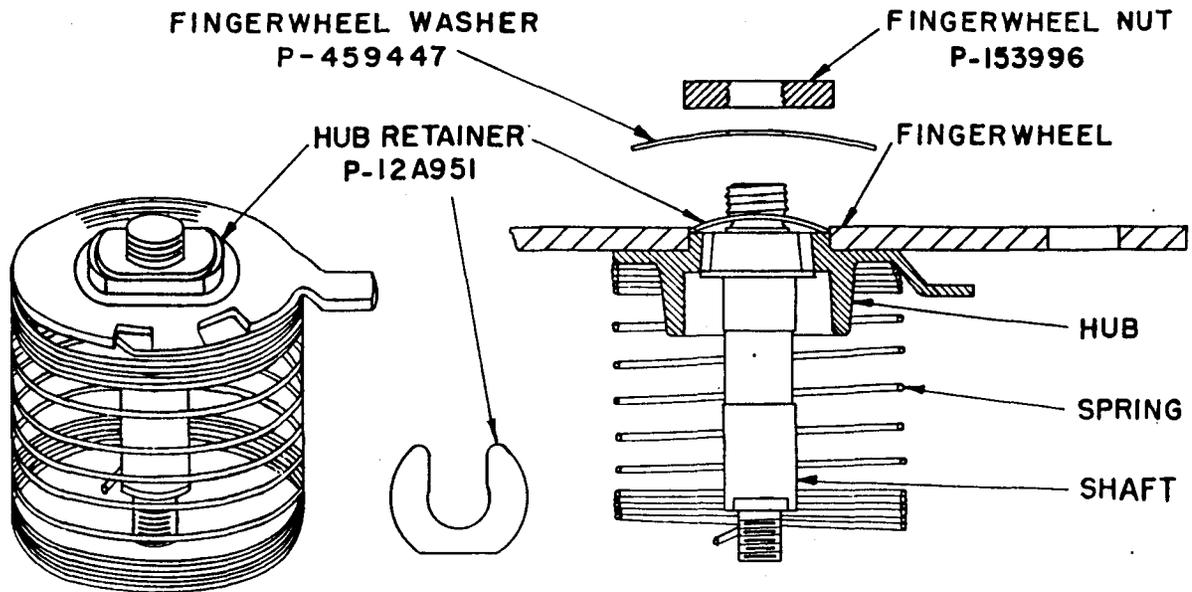

Fig. 12 – Dial Hub Retainer and Spring Washer
7.02 If for any reason fingerwheel hex nut is removed on dials of earlier manufacture not equipped with a black finished fingerwheel nut, the motor spring and hub assembly may jump out of its proper position. This condition can be prevented by use of hub retainer P-12A951, as shown in Fig. 12. To assemble, hold fingerwheel down while nut and washer are removed, and insert hub retainer. Replace dial if motor spring and hub assembly jump out of place.